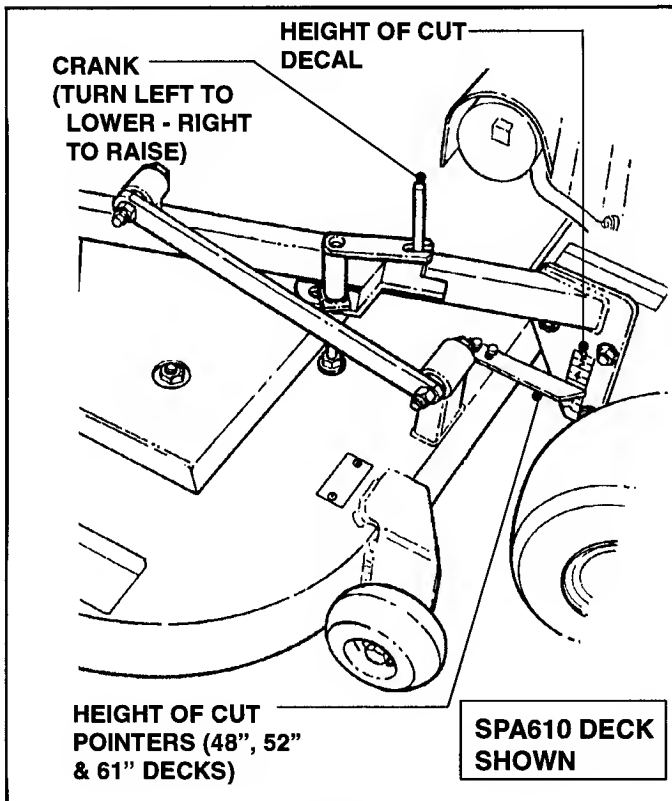

FIGURE 5.21
- B. To adjust height of cut, rotate both cranks located on each side of deck. Observe the height of cut decal located on the side of the mounting plates and place the pointer in the same desired position on both sides. See Figure 5.21.